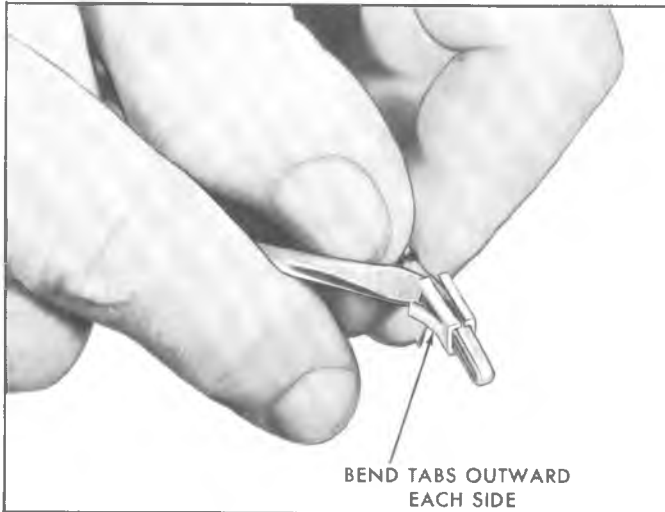

Fig. 17—Preparing Wire Retaining Tabs for Installation
5. Bend the wire retaining tabs slightly outward on each wire in the wiring harness as shown in Figure 17; this will provide proper retention of the wire in the half-moon connector.